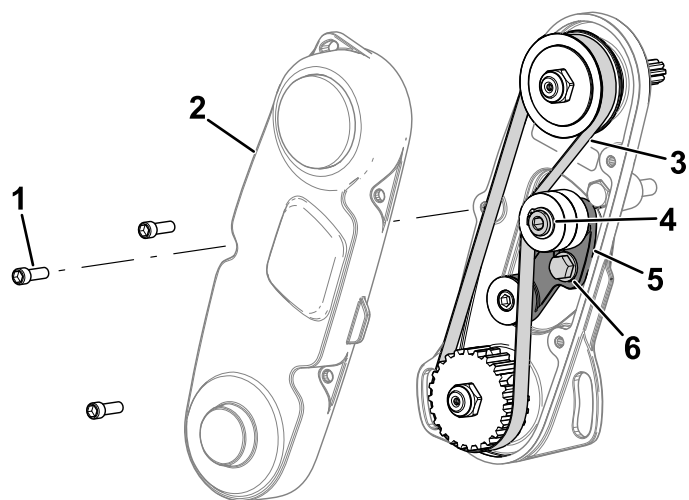

Figure 4
- C. Remove the belt cover to expose the belt (Figure 4).
- D. Loosen the idler-arm bolt and rotate the idler arm (Figure 4) to release tension on the belt.
- E. Remove the belt (shown in Figure 4).
- G. Install the belt and tension the belt by applying 6 to 7 N·m (55 to 60 in-lb) to the idler-arm internal hex shown in Figure 4.